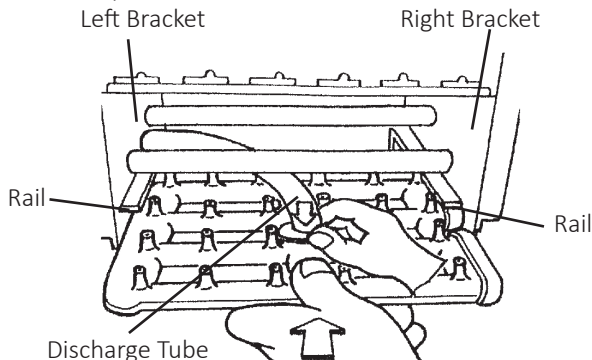

Fig. 35
- 12) Slide in the spray assembly along the rails on the left and right brackets. See Fig. 35. Connect the discharge tube securely to the spray assembly; a loose fitting may cause a water leak.